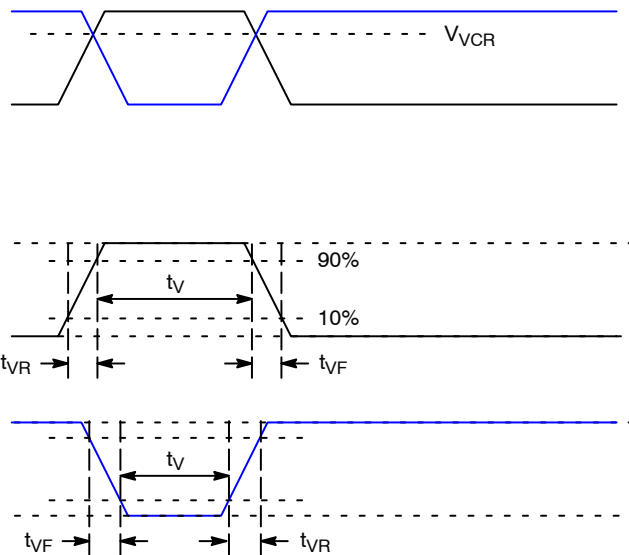

Figure 24. VCCD Clock Rise Time, Fall Time, and Edge Alignment
1. Refer to Figure 24: VCCD Clock Rise Time, Fall Time, and Edge Alignment.